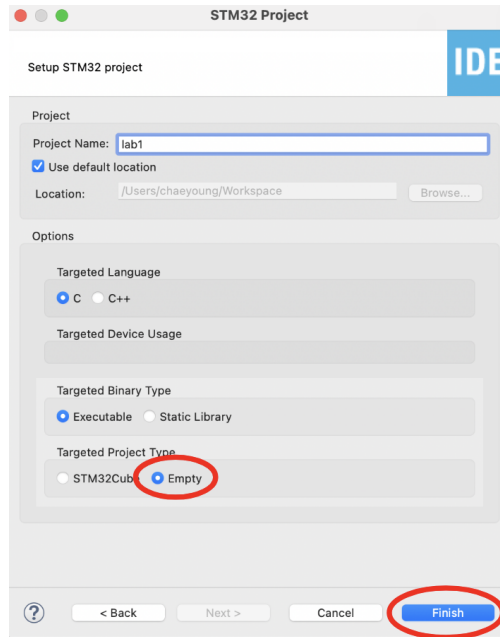

Figure 2: Initialize project as empty.
- Click **Next**, name your project (e.g., **lab1**), click Targeted Project Type as **Empty**, and click **Finish** (see Figure 2).